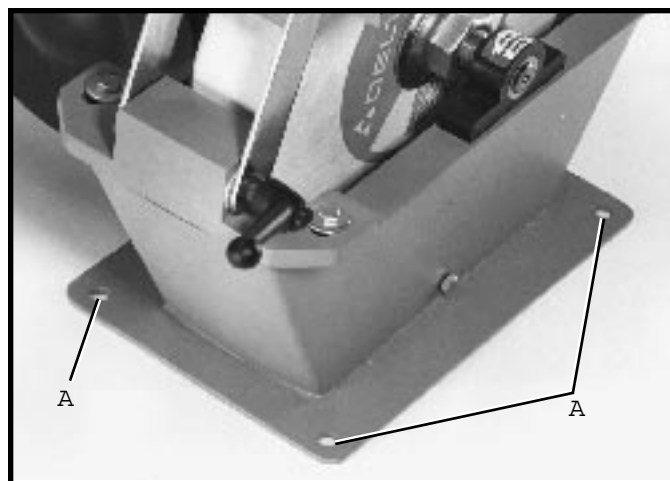

Fig. 11
The Wet/Dry Grinder should always be secured to a supporting surface using the four mounting holes, three of which are shown at (A) Fig. 11.